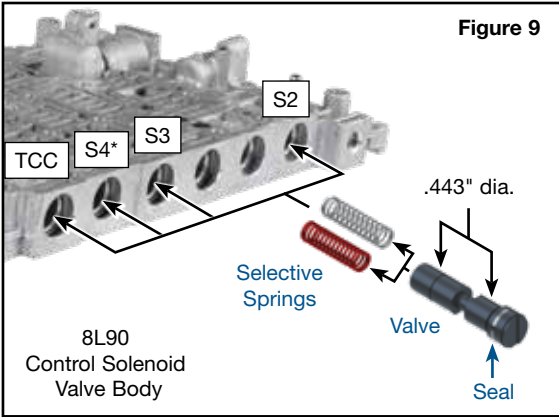

Figure 9
Step 12 Install S2/S3/S4 TCC Clutch Control Valve (Figure 9)